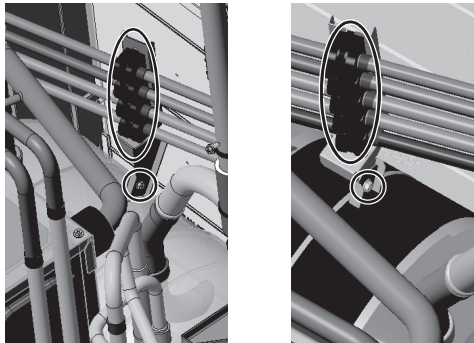

Figure 9
- (4) Remove the sheet metal, cable ties, and rubber spacers from the accumulator mounting plate by unscrewing the screw. (See Figure 9.)